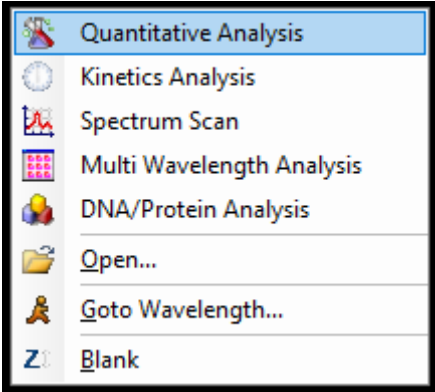

Fig. 3.2-3 Popup menu
- Pop-up menu with right click on the work area (Fig.3.2-3).